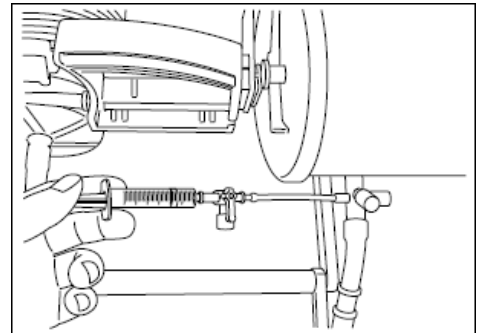

Figure 21
1. Collect blood from the sampling line of the oxygenator (Figure 21).